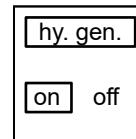

Fig. 72: Hydrogeneration display view
- Hydrogeneration must be activated under "**Fig. 72: Hydrogeneration display view**".